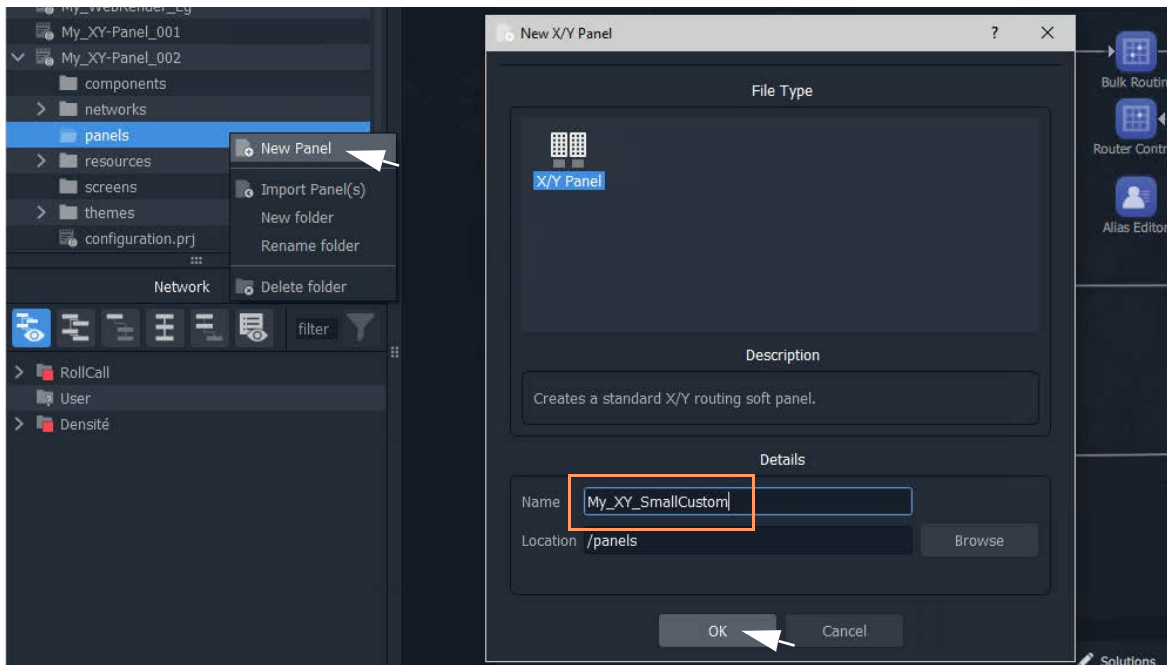

Fig. 14-38: Create New XY Panel
- 3 Enter a name into the **New XY Panel** dialog and click **OK**. See Figure 14-38.